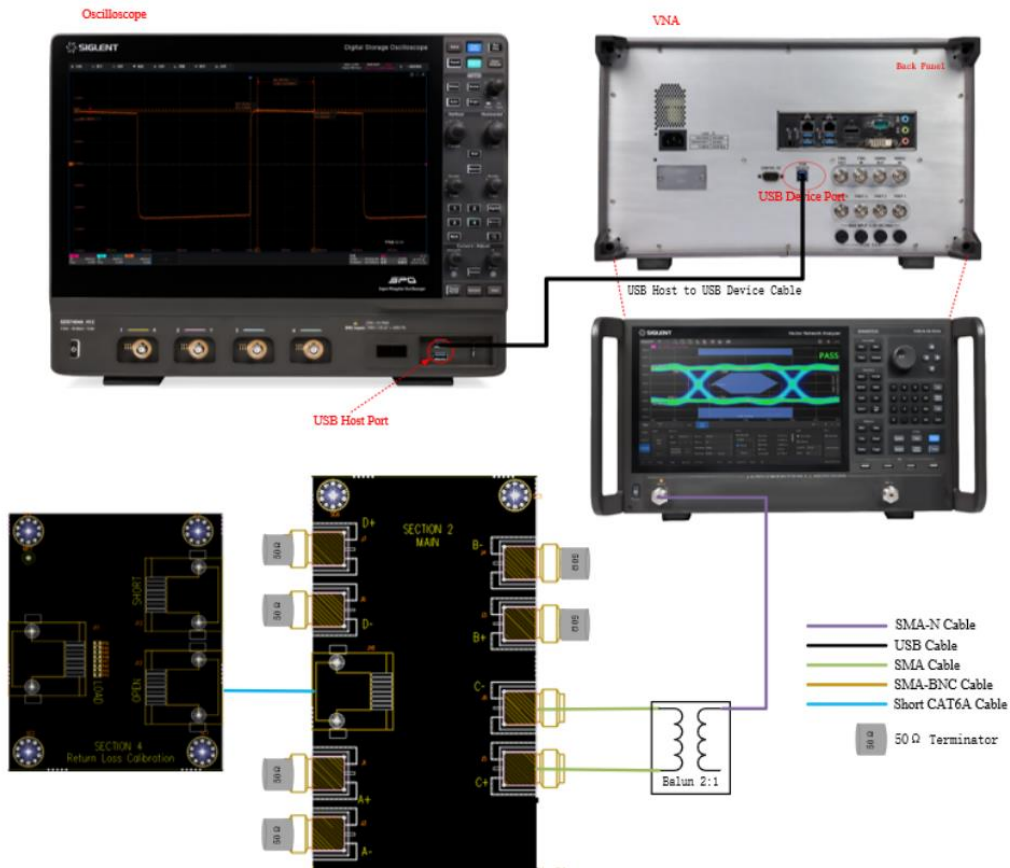

Figure 5-4 MDI Return Loss Calibrations Connect
- Calibration Connect: The connect method is shown in Figure 5-4. The steps are:
- 1) Connect two equal-length SMA cables to the input of the balun and the corresponding test points in area ② of the test fixture: DA (J1, J2), DB (J3, J4), DC (J5, J6), DD (J7, J8).
- 3) Install 50 Ω termination matchers on the untested signals in area ② of the test fixture.
- 5) Connect one end of a short Ethernet cable to connector J16 in area ② of the test fixture and the other end to the calibration component's J12 for Open calibration.